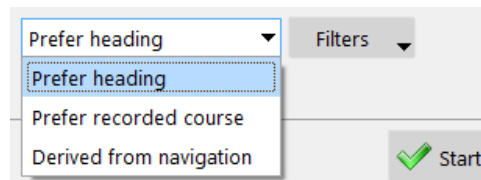

Figure 39. Heading options
10. Select a preferred heading option from prefer heading, prefer recorded course and derived from navigation (Figure 39).